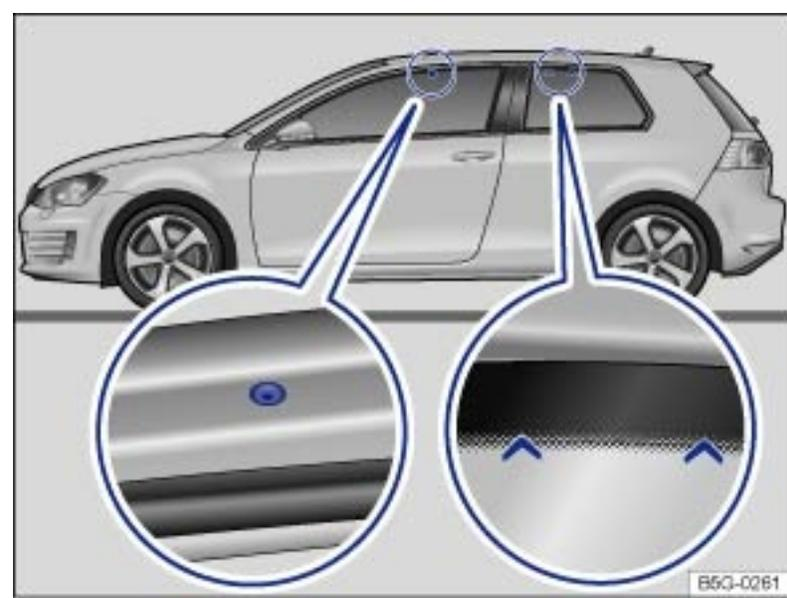
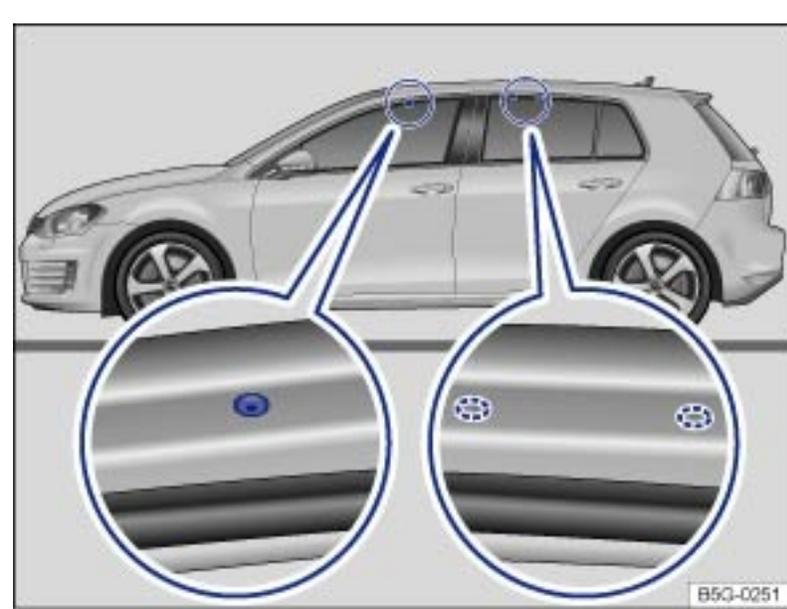

Fig. 105 Mounting points for the base carrier and roof rack on 2-door vehicles.
Fig. 106 Mounting points for the base carrier and roof rack on 4-door vehicles.
The front mounting holes are on the underside of the roof frame. They are sealed with plastic screws that must be removed before installation → Fig. 105 (magnified view on left). The holes are only visible when the door is open. The rear markings for the base carrier are above the rear side windows → Fig. 105 (magnified view on right).
The front mounting holes are on the underside of the roof frame. They are sealed with plastic screws that must be removed before installation → Fig. 106 (magnified view on left). The rear markings for the base carrier are on the underside of the roof frame → Fig. 106 (magnified view on right).
- Secure the roof rack base carrier only at the attachment points shown in the illustration → Fig. 105 or → Fig. 106.